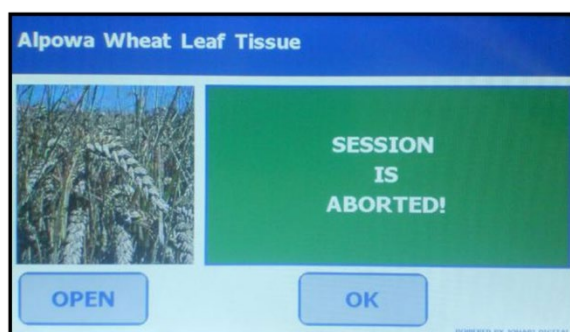

Figure V-19: Confirmation Screen for Aborted Assay
2. If an assay is aborted, the FP-24 5G displays a confirmation screen, prompting “SESSION IS ABORTED!” \(Figure V-19\). Press [OK] to return to the main menu or [OPEN] to open the Dome.